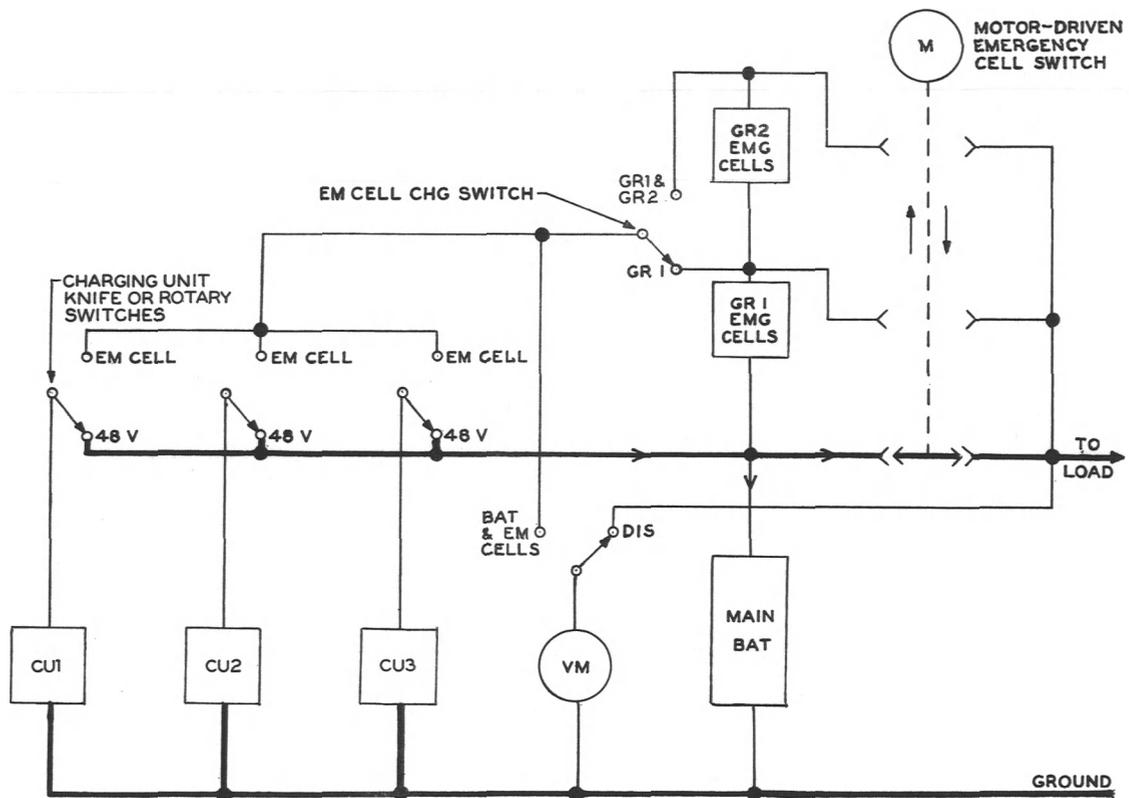

Fig. 5 - Simplified Boost Charge Circuit
connected to maintain float voltage on the main battery while the current regulating units (CU3-CU7) are connected to the EM CELL BUS. (Refer to Fig. 5.) Output current from the current regulating CUs passes through the emergency cell group to be charged and thence to load. If charging by load is attempted during a light-load period, any increase in output of CU3-CU7 will cause a corresponding decrease in the output of the voltage regulating unit (CU1 or CU2). In order to regulate voltage, the voltage regulating CUs must deliver some current. Therefore, the charging rate through the emergency cells will vary with load conditions. Where the load is high, the maximum amount of charging current through the emergency cells is determined by the finishing rate and temperature of the battery as follows. The emergency cells shall be charged at a rate not exceeding the finishing rate (nominal charging rate) of the emergency cells. However, in the case of an emergency which has discharged a considerable part of the battery capacity, a high starting rate may be
2.44 If the power failure was long enough to cut in the emergency cells, the EM cells alarm lamp will remain lighted even though the main battery has recharged enough to cause the emergency cell switch to return to the normal position. In this case, check the individual cell voltage of the GR1 and GR2 emergency cells with a portable voltmeter, such as the Model 931 voltmeter, to see if they require recharging using the CUs or whether the trickle charge would be sufficient. Depending on the duration of the power failure and load conditions, several procedures for recharging the batteries are suggested in (a) to (c) below. A simplified circuit showing the basic switching arrangement is shown in Fig. 5.